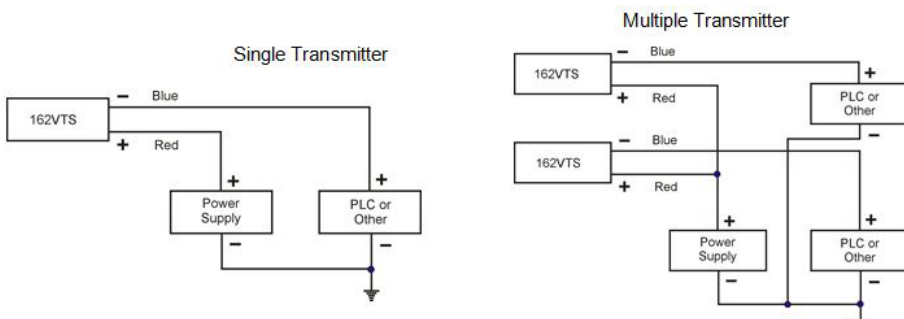

Figure 3: Explosion-proof wiring diagram.
1. SAFE AREA INSTALLATION: Connect the field wiring in accordance with the appropriate diagram shown in Figure 3. The 162VTS transmitter requires a minimum of 11 VDC for proper operation. The minimum loop power supply voltage required is 11 VDC plus 1 volt for each 50 Ω of loop resistance.
162VTS transmitters are CSA certified explosion-proof, Class I (B, C & D); Class II (E, F & G,). Connect the field wiring in accordance with the appropriate diagram shown in Figure 3. Refer to “Safe Area Installation” paragraph on Page 4 for loop voltage and resistance requirements. All conduit and junction boxes must be certified explosion-proof for the class, division and group required by the application. Installation of the transmitter must meet all of the explosion-proof installation requirements of the local governing agency and facility safety procedures.